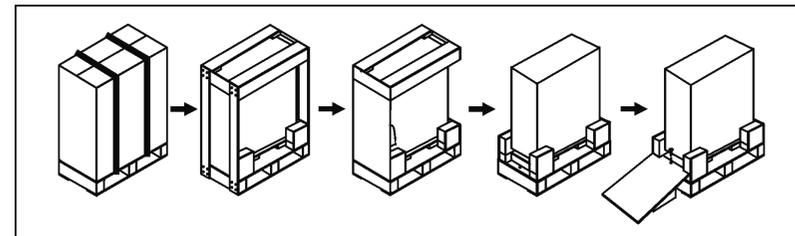
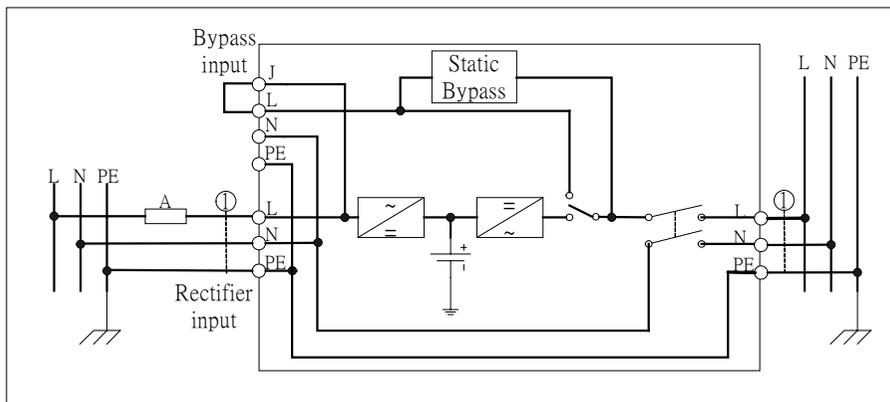

Fig. 2. Unpacking UPS and external battery cabinet
Fig. 3
While unpacking the equipment, ensure to remove all packing materials and shipping cartons (refer to fig. 2 for unpacking /5000/6000/8000/10K/12KVA UPS and External battery cabinets for 5000/6000/8000/10K/12KVA)
- Ensure that the installation site has all electrical connections properly carried out. In addition, refer to figures 2 and 3 to check the fuse and cable dimensions.
- Refer to figure 2 for single cable input and figure 3 for dual cable input. Connect the UPS according to these diagrams. If installing dual cables, the interconnection jumper (b*) needs to be removed as in figure 2. Fuse and cable sizes are given in figure 3.
- At the back of the unit you will find the Emergency Power Off (EPO), which when open will immediately shut down the logic circuit output of the UPS as in figure 2 and 3. Wiring the EPO signal is optional.
- **Caution!** Local safety requirements may require a separate external Emergency Power Off that opens output circuit breakers, and if so, use figures 2 and 3 for proper installation. Refer to local wiring rules.